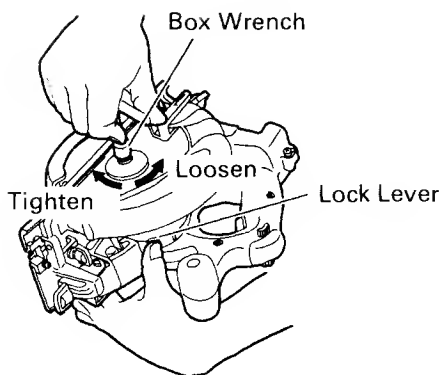
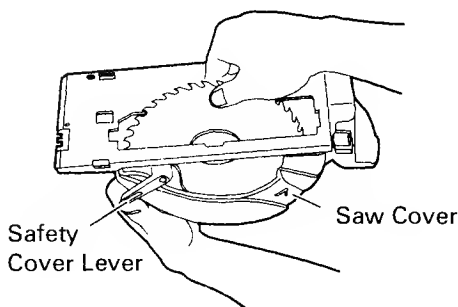

Fig. 17
Fig. 18
- (1) Set the cutting volume at maximum, and place the Circular Saw as shown in Fig. 17.
- (2) Depress the lock lever, lock the spindle, and remove the hexagonal-head bolt and washer(B1) with the box wrench.
- (3) While holding the safety cover lever to keep the safety cover fully retracted into the saw cover, remove the saw blade. (Fig. 18)